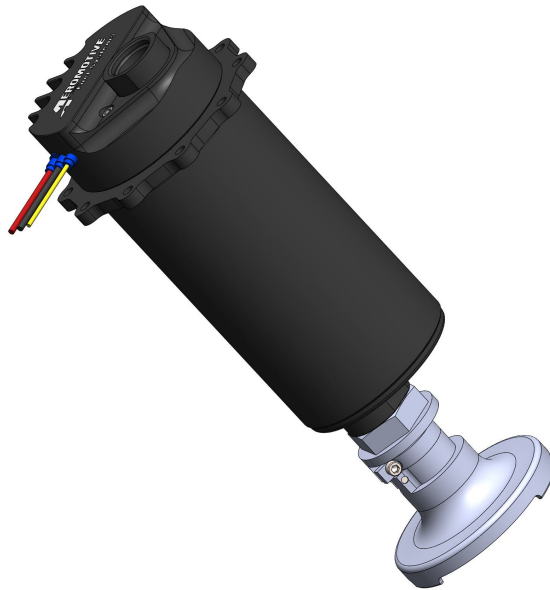

FIGURE 1-6
8. Measure the depth of the tank to determine the pump assembly length requirement. Subtract .125-.250" off of the depth measurement so that the pickup isn't resting on the bottom of the baffle. Cut the supplied tube to the length required for the pump assembly to have the desired length. Deburr the inside of the pipe and chamfer the outside edge so that it doesn't cut the o-rings when the tube is inserted into the clamps (use light grease or oil to aid in assembly). Assemble the pump and filter as shown in **Figure 1-6** (the assembly shown in the figure has the shortest possible configuration of 9.875" length).